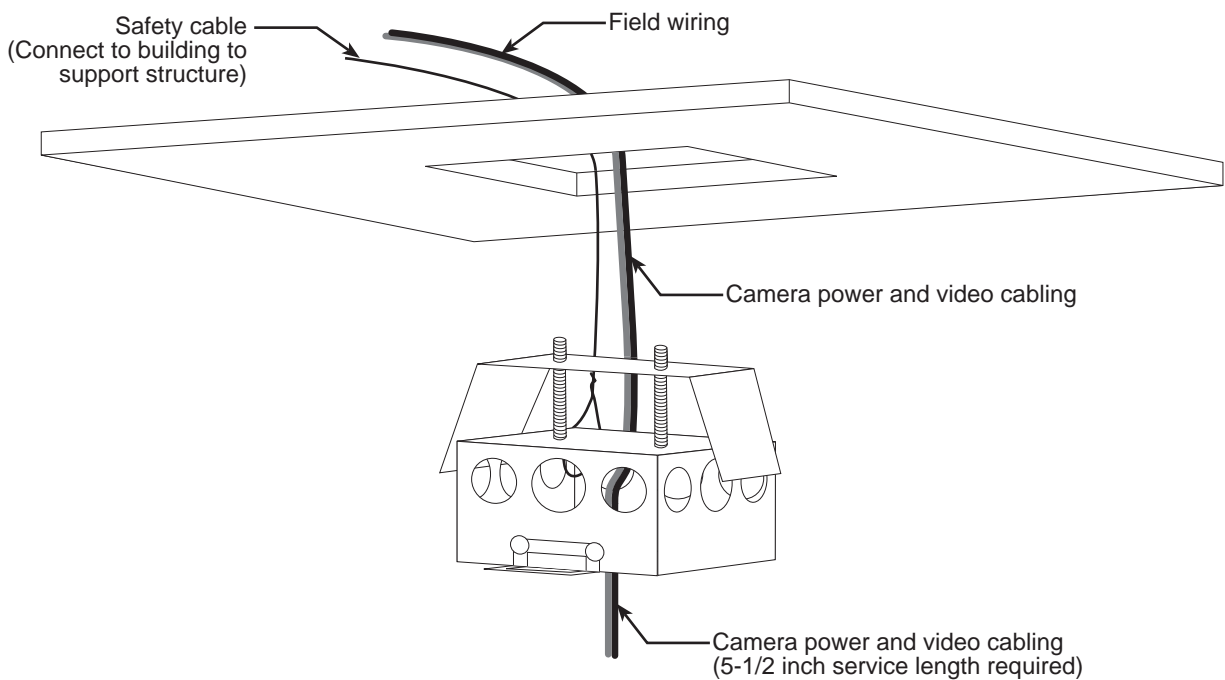

Figure 17. Installing safety cable and routing power and video cables into back box
3. Route the power and video coaxial cables through one of the knockouts in the back box. A 5 1/2-inch service length from the back box is required for cabling. Connect a safety cable from a building support structure to the back box. See figure 17.